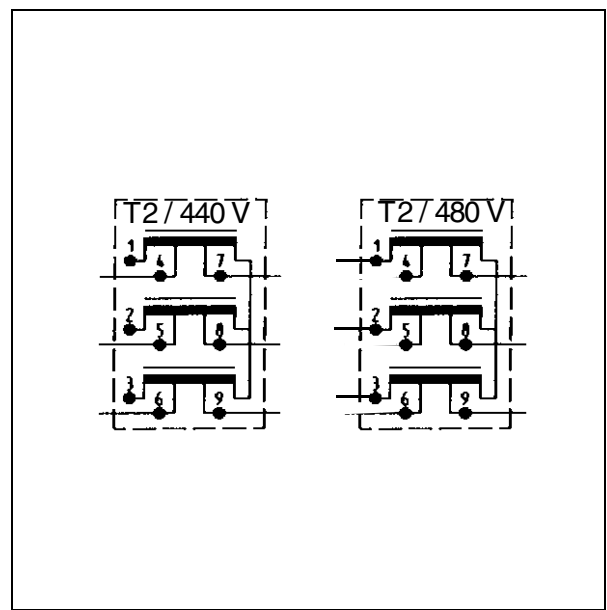

Fig. 25:
- Connect the cables that are included in the shipment between the K20 power connection terminal and the T2 pre-transformer per Wiring Diagram X2206-10 (440 V or 480 V connection) (Fig. 25 / p. 80).